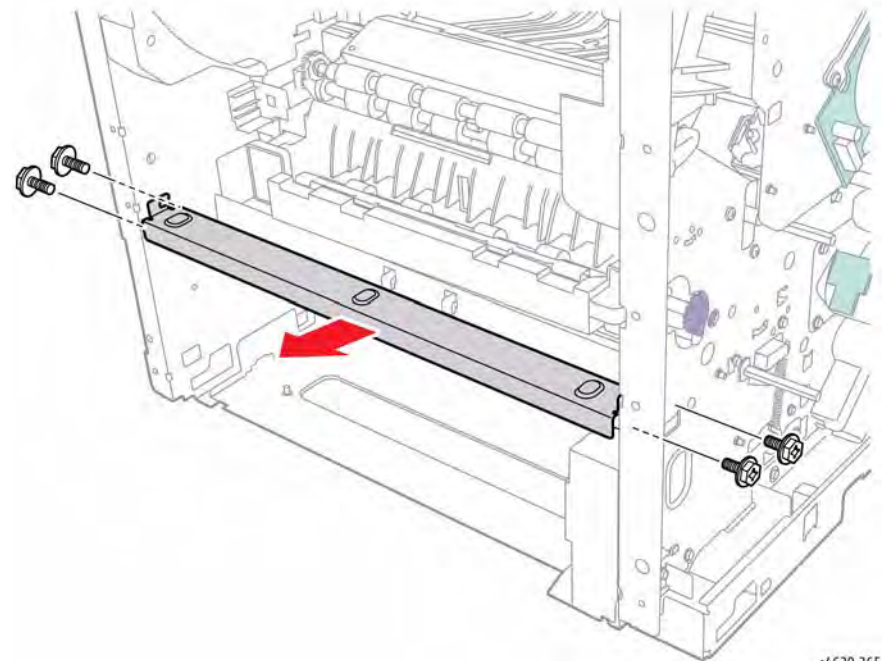

Figure 2 Remove the front support bracket
18. Remove 4 screws (metal) that secure the front support bracket, Figure 2.